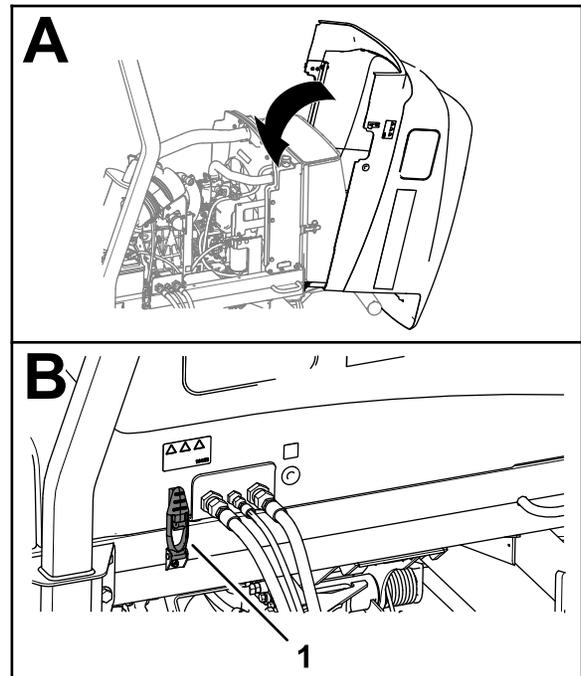

Figure 101
1. Carefully rotate the hood closed (Figure 101).